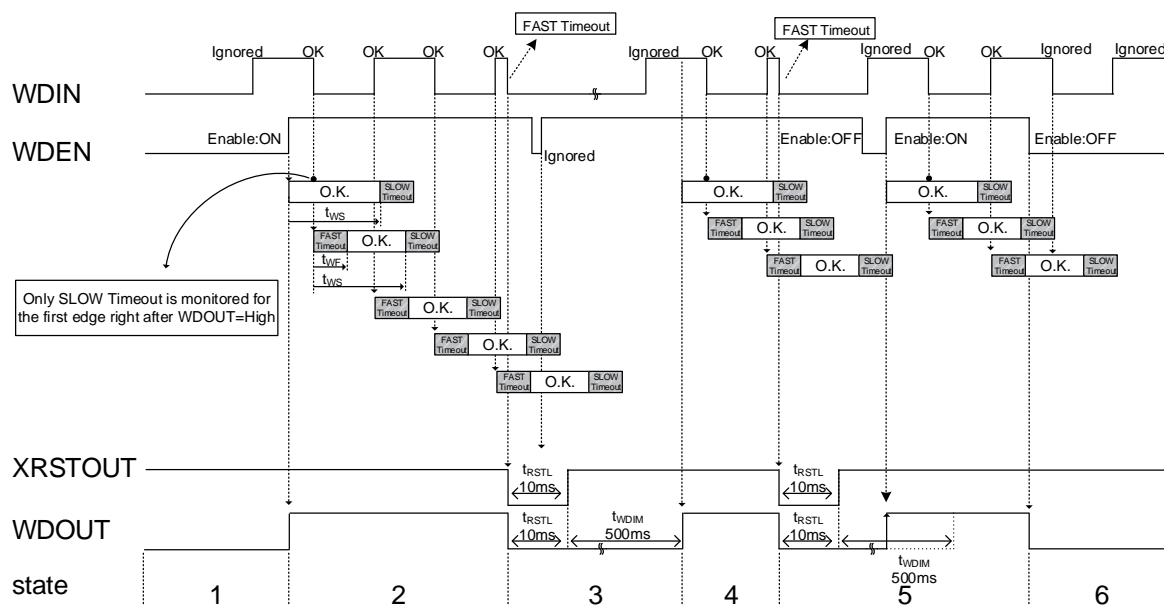
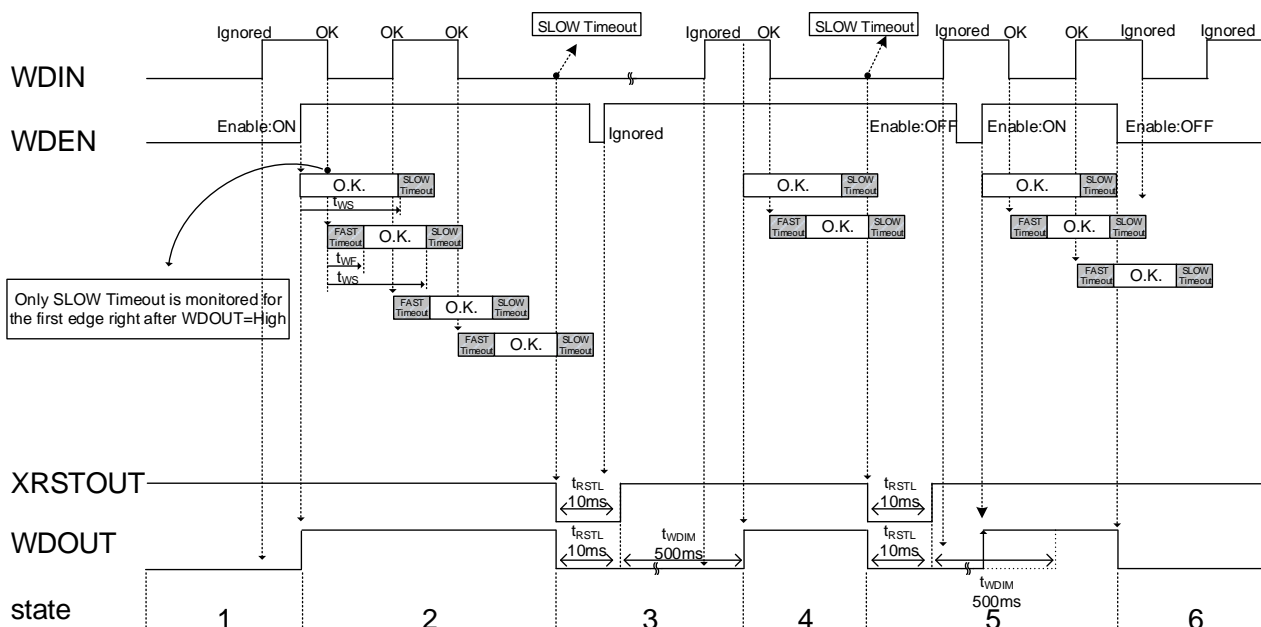

Figure 2. WDT FAST Timeout Detection
Figure 3. WDT SLOW Timeout Detection
Sequence for FAST Timeout and SLOW Timeout are shown in Figure 2 and Figure 3.
3. These time detection monitors the time until next edge and when it detects WDIN edge within FAST Timeout ( $t_{WF}$ ), XRSTOUT and WDOUT becomes Low. XRSTOUT goes back to High after 10 ms (Typ) delay, while WDOUT goes back to High after  $t_{WDM}$  (500 ms: Typ) in addition to  $t_{RSTL}$  (10 ms: Typ) as long as WDEN=High.  $t_{WDM}$  is implemented as a time for microprocessor to be reset normally and stabilized. If this time is unnecessary and WDT should be activated as soon as possible, WDEN may be controlled like state 5 in the Figure 2.
5. When WDOUT becomes High, WDT is activated again and operation resumes. Only SLOW Timeout detection works until the next first edge, and both SLOW Timeout and FAST Timeout starts at the first edge like state 1 in Figure 2.
6. If this time is unnecessary and WDT should be activated as soon as possible, WDEN may be controlled like in Figure 2.  $t_{WDM}$  is canceled by toggling WDEN like High->Low->High and WDT is activated immediately even during  $t_{WDM}$ . After WDT is enabled it works as same as state 2 in Figure 2.
If this time is unnecessary and WDT should be activated as soon as possible, WDEN may be controlled like state 5 in the Figure 3.
Only SLOW Timeout detection works until the next first edge, and both SLOW Timeout and FAST Timeout starts at the first edge like state 1 in Figure 3.
5. If this time is unnecessary and WDT should be activated as soon as possible, WDEN may be controlled like the Figure 3.
After WDT is enabled it works as same as state 2 in Figure 3.